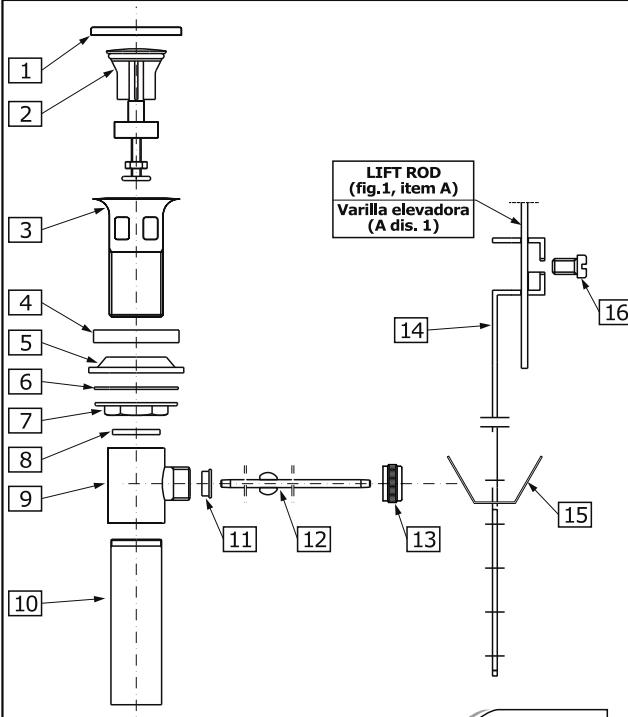

FIG. 2
- Dismantle the drain assembly to the parts shown on **fig. 2**.
- Insert collar gasket (4) and drain collar (3) into drain hole of a lavatory. From underneath the lavatory slip under-bowl gasket (5) into drain collar (3), washer (6) and flanged nut (7).
- Position under-bowl gasket (5) correctly under the lavatory and screw flanged nut (7) firmly but do not overtighten.
- Make sure washer (8) is inside drain body (9) and screw drain body (9) onto drain collar (3) hand tighten only.